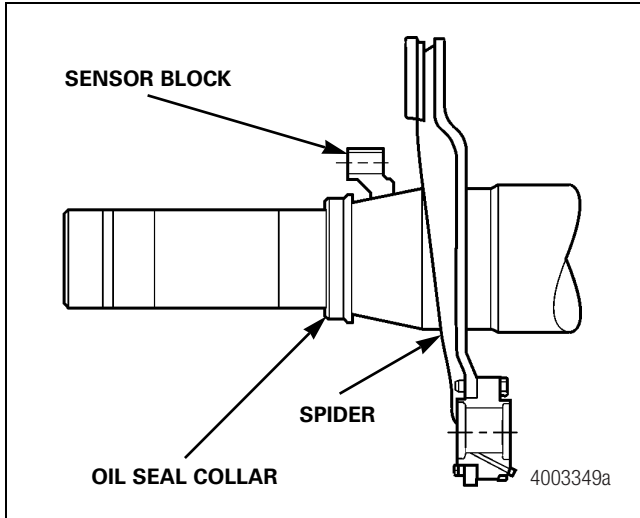

Figure 13.4
- Sensor Block — Welded to the axle between the spider and oil seal collar, the sensor block holds the sensor in correct position relative to the tooth wheel. Figure 13.4.